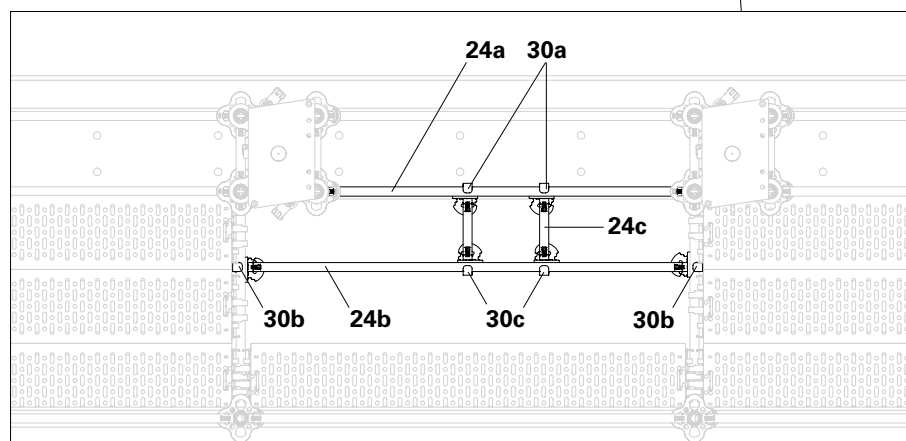

Fig. A6.17
5. Then attach two Horizontal Ledgers UH 25 Plus (24c) into the Ledger-to-Ledger Couplers UHA (30a + 30c). (Fig. A6.17)